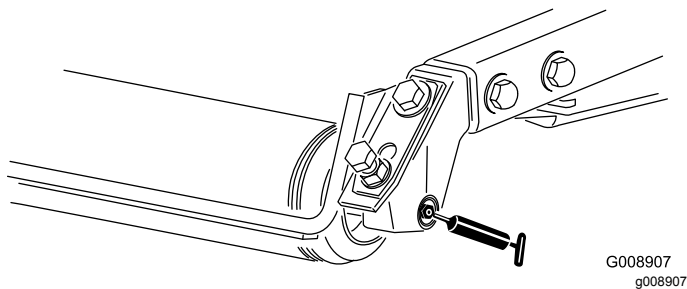

Figure 55
- Rear-roller bearings (2 per cutting unit)—Figure 55